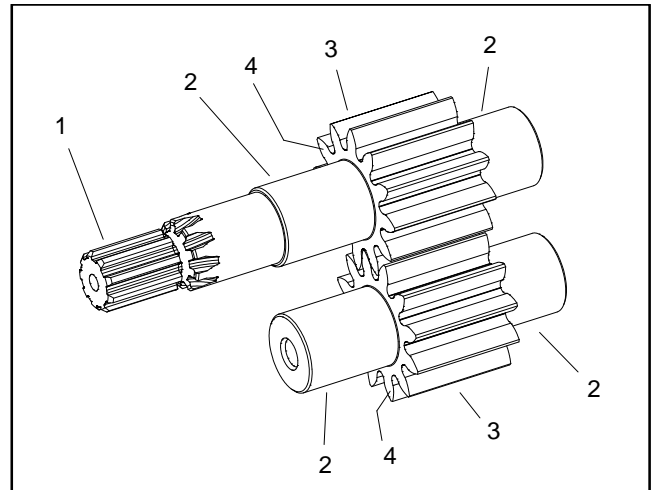

Figure 69
3. Inspect drive gears and idler gears for the following (Fig. 69):